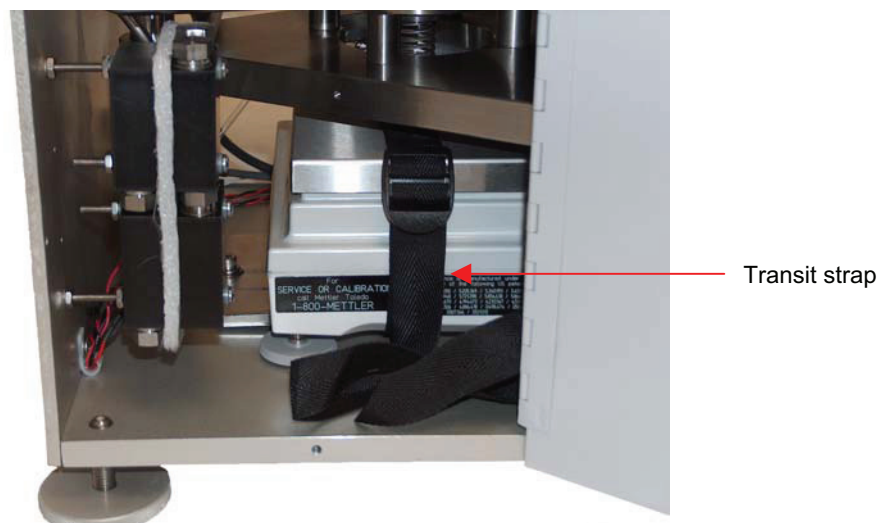

Figure 4. Transit Strap Removal
2. Remove the balance transit strap as follows (see Figure 4):